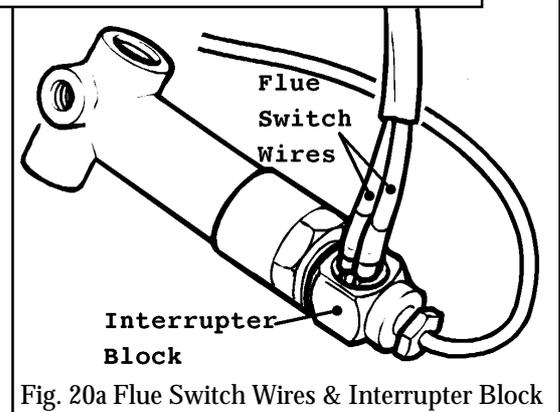

Fig. 20a Flue Switch Wires & Interrupter Block
**16.12.2** Loosen the thermocouple connection to the interrupter block and detach the flue switch wires (see fig. 20a).